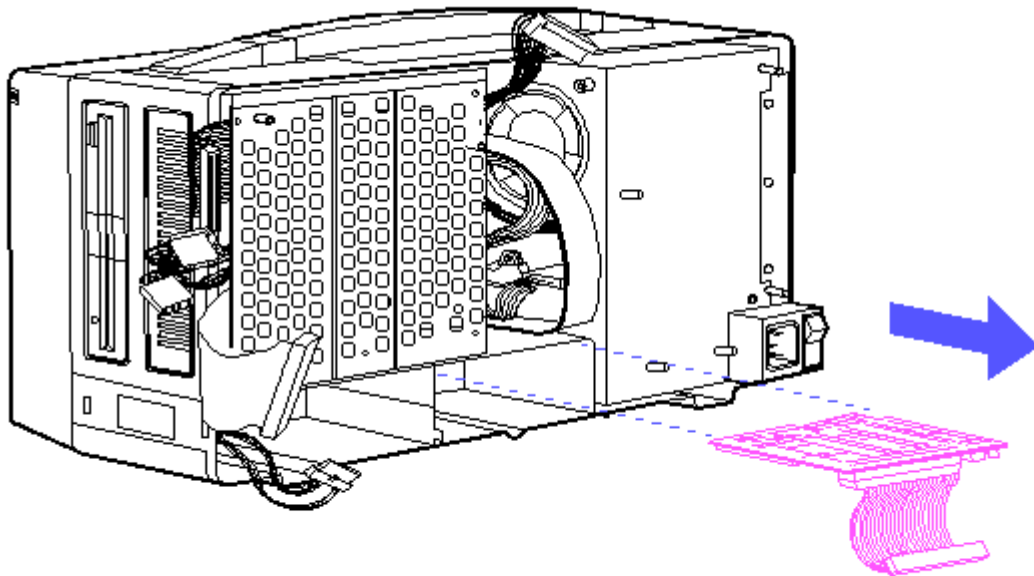

Figure 8-36. Removing the Plasma Display Controller Board
12. Carefully slide the controller board from its compartment (Figure 8-36).